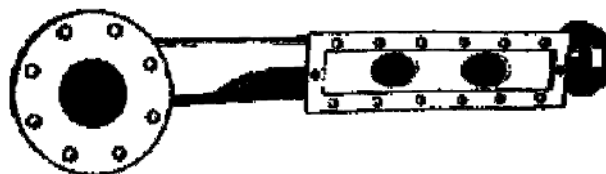

Figure 38. Solution supply header.
(1) Remove the nuts holding the solution supply header.
(2) Remove the nuts and bolts in the flange connection to the solution piping.
(3) Remove the solution supply header. Figure 38 illustrates the solution supply header.
(4) Remove the bolts holding the blank flange on the solution supply header.
(5) Carefully remove the strainer and clean it by flushing it with water.
(6) Replace the strainer and use a new gasket under the blank flange. Be sure that the flange faces are clean so that the flange will seal properly when bolted back in place. Do not replace the supply header until the spray header has been removed and cleaned.